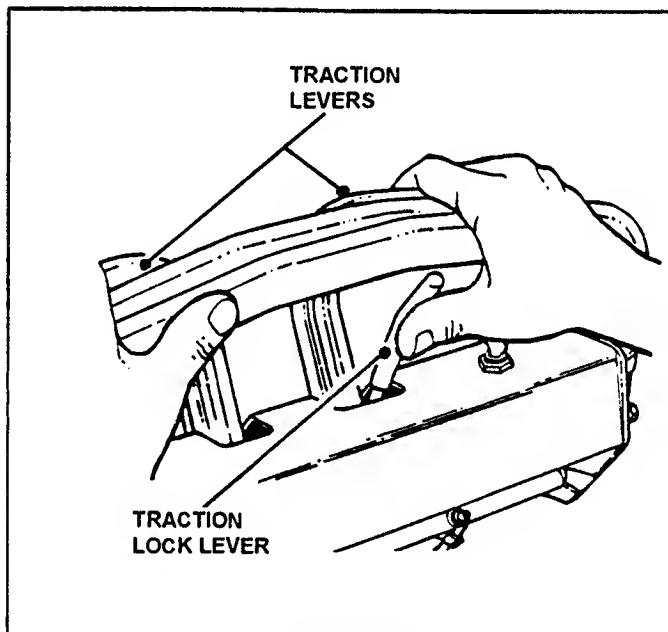

FIGURE 14
13.a. **LOOP HANDLE: TO STOP MOWER**, simultaneously squeeze both Traction Levers firmly against the handlebar while pushing the Traction Lock Lever forward, until latched. See Figure 14.
3. Move Transmission Shift Lever to REVERSE (R) position.
- 7a. LOOP HANDLE - TO STOP MOWER, simultaneously squeeze both Traction levers firmly against the handle while pushing the Traction Lock Lever full forward, until latched. See Figure 14.